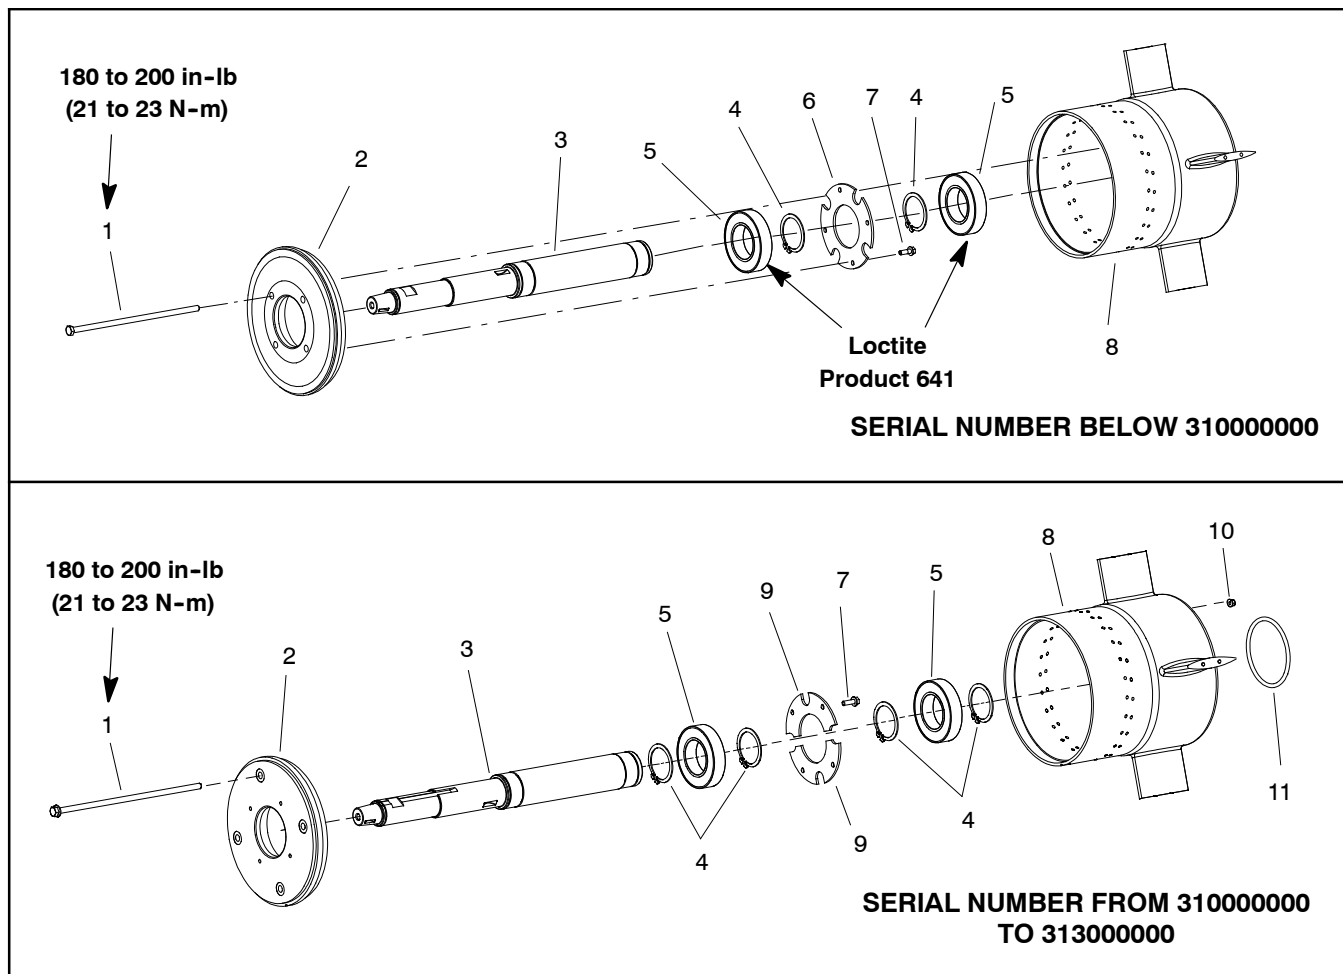

Figure 6
**NOTE:** Several changes were made to the rotor shaft assembly above machine serial number 310000000. Figure 6 shows both the earlier and later illustration for the inner housing assembly used on machines with serial number below 313000000.
### Removal (Fig. 6)
7. For assembly purposes, use a marker to make a line across the bearing holder (item 2) and inner housing (item 8) to show proper alignment.
8. Remove four (4) cap screws that secure bearing holder to inner housing.
10. Remove four (4) flange head screws (item 7) that secure front bearing cap to bearing holder. Remove bearing holder from rotor shaft assembly.
11. Using Figure 6 as a guide, remove bearings, retaining rings and front bearing cap from rotor shaft as necessary.
12. On machines with serial numbers above 310000000, remove and discard O-ring (item 11) from inner housing.
### Installation (Fig. 6)
7. Remove four (4) flange head screws that secure bearing cap (item 4) to inner housing.
8. Carefully slide rotor shaft assembly from inner housing. Note slot in inner housing that locates tab on end cap (item 5) for assembly purposes. Rear cap will remain in inner housing.
9. Using Figure 6 as a guide, remove bearing cap (item 4), end cap (item 5), retaining rings (item 6) and bearings (item 7) from rotor shaft as necessary.
10. Remove and discard O-ring (item 9) from rear cap.
11. If necessary, remove rear cap (item 8) from inner housing.
## Installation (Fig. 6)